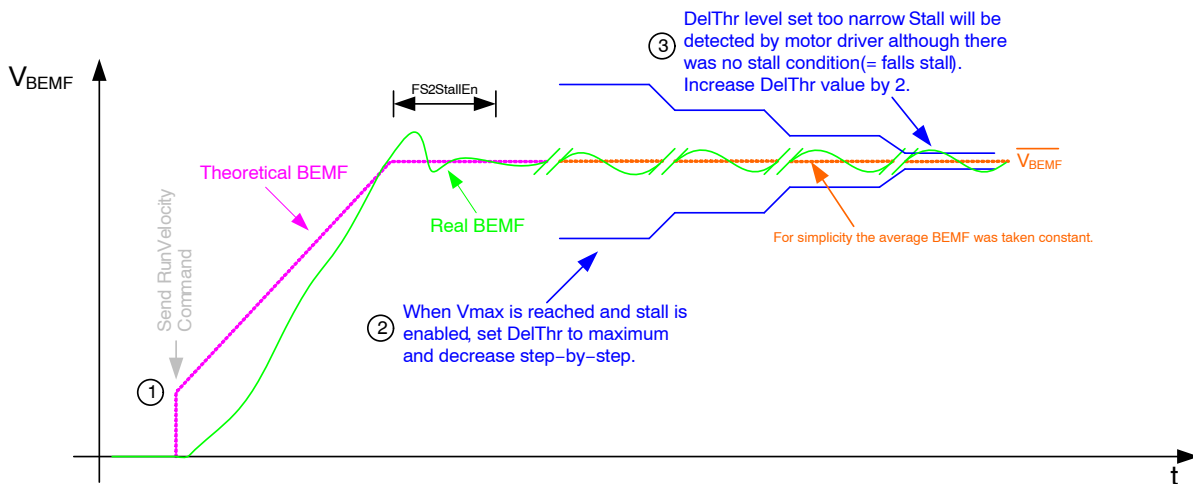

Figure 38. Defining DelThr for a Free Running Motor
- Step 4a: When spinning at maximum velocity ( $V_{max}$ ), set DelThr to the maximum value. If the motor is still rotating, decrease DelThr. Do this until the motor stalls without hitting an end position (= falls stall). If falls stall is detected, the DelThr value is set too narrow. Increase the (hexadecimal) value by 2 (if possible) to have a good DelThr setting. See also Figure 38.